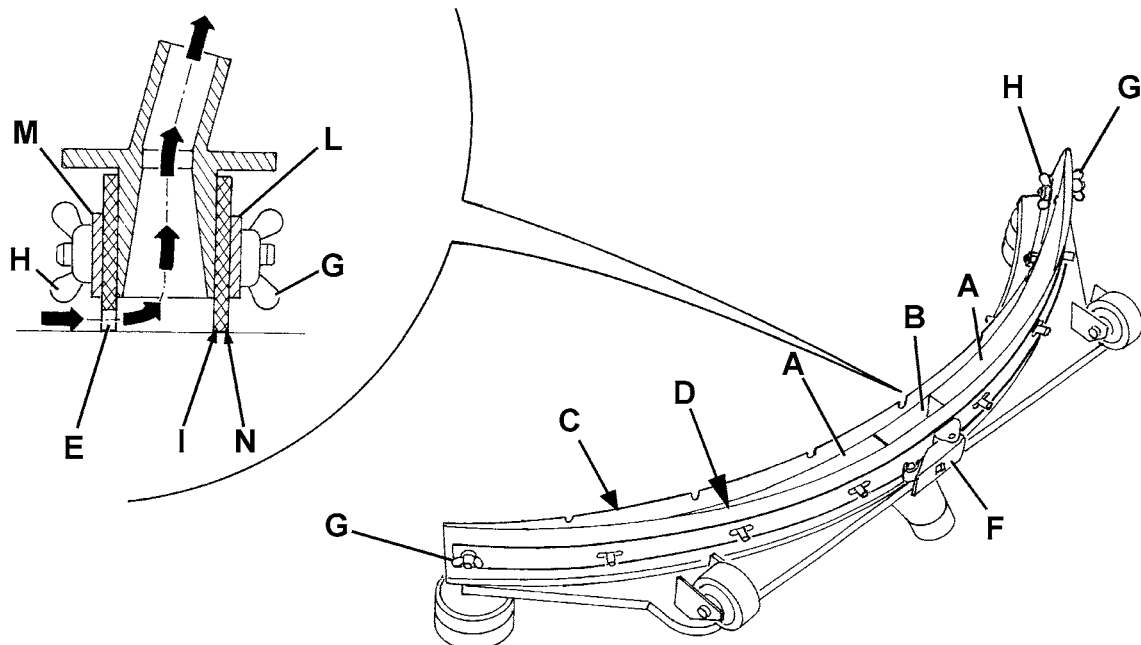

Figure 3
2. Insert the ignition key (41) and turn it to "I".
3. Lower the squeegee (12) by pressing the switch (36).
4. Turn the ignition key (41) to "0".
5. Disconnect the vacuum hose (11) from the squeegee.
6. Loosen the handwheels (15) and remove the squeegee (12).
7. Wash and clean the squeegee. In particular, clean the compartments (A, Fig. 3) and the hole (B) from dirt and debris. Check the front blade (C) and the rear blade (D) for integrity, cuts and tears; otherwise replace them.
2. Check that the edges (E and N, Fig. 3) of the front (17) and rear blades (18) lay down on the same level, along all their length; otherwise adjust their height according to the following procedure:
- Disengage the fastener (F) and loosen the wing nuts (G) to adjust the rear blade (D); then tighten the wing nuts and engage the fastener.
- Loosen the wing nuts (H) to adjust the front blade (C); then tighten the nuts.
3. Check the front blade (C) and rear blade (D) for integrity, cuts and tears; otherwise replace them according to the following procedure. Check that the front corner (I) of the rear blade is not worn; otherwise, overturn the blade to replace the worn corner with an integral one. If the other corners are worn too, replace the blade as shown below:
- Disengage the fastener (F), remove the wing nut (G) and the retaining strip (L), then replace (or overturn) the rear blade (D). Install the blade in the reverse order of removal.
- Remove the wing nuts (H) and the retaining strip (M), then replace the front blade (C). Install the blade in the reverse order of removal.